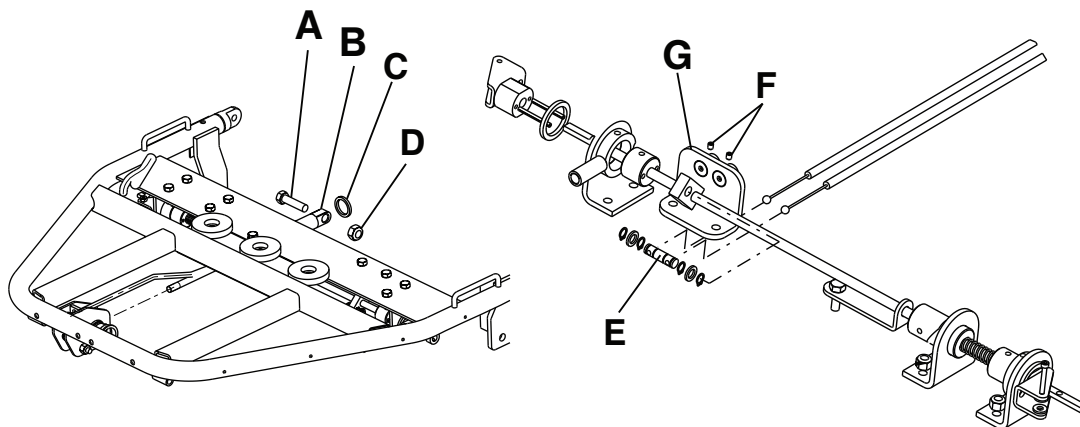

Figure 19 – Leg section cable replacement
6. Using a 5/16" hex wrench and a 5/8" combination wrench, remove the bolt (A), washer (C), and nut (D) that secure the gas cylinder (B) to the frame (Figure 19). Save all parts.
8. Using a 1/4" nut driver, remove the screws (A) that secure the locking link covers (B) to the frame (*Leg section locking link replacement* (page 29)). Save the screws.
9. Reconnect the foot cylinder to the frame and insert the bolt (A) (removed in step 6) (Figure 19).
11. Using two 7/16" combination wrenches, loosen the cable retainer (D) and the nut (N) on the locking linkage (*Leg section locking link replacement* (page 29)).
12. Pull the ball end of the cable at the cable pivot (E) to remove the worn or damaged cable from the cable cover (Figure 19).
13. Using a 5/64" hex wrench, remove the set screws (F) on both ends of the cable cover. Remove the cable cover.
14. Install the supplied cable cover by inserting each end into the respective cable end stop (G).
15. Apply **Loctite** 242 to the set screws and reinstall the set screws (F) (removed in step 13) at the cable stops (G). Do not overtighten the set screws. Overtightening the set screws can crush the cable cover and prevent proper cable movement.
16. Insert the supplied cable through the cable pivot (E). Feed the cable into the large diameter side of the cable pivot (E).